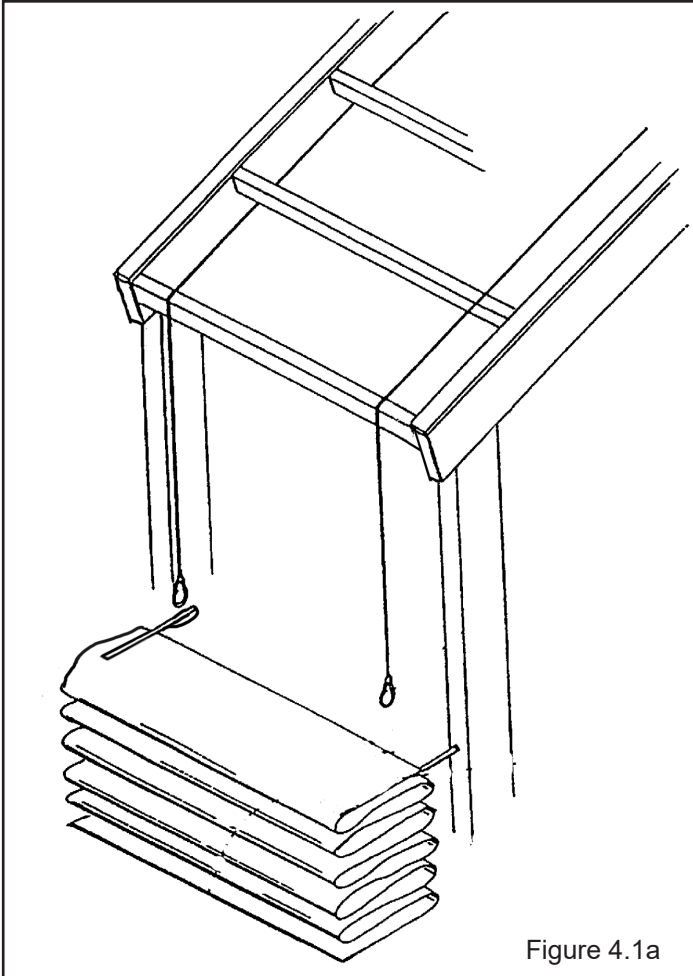

Figure 4.1a
- 4.1.2 Using a drop cloth, lay the mid fabric next to the bottom of the uprights on the snap side of the mid bay. Snap the pull ropes onto the web loops near each kedar edge. Mid should be loosely stacked to permit easy feeding into the channels. See **Figure 4.1a**. **IMPORTANT:** Use the third pull-rope as a pull-back rope. Snap this rope to one of the pull straps on the mid along with one of the pullropes. After the mid has been pulled up and over to the other side of the mid, remove this rope from the strap and snap to the other two pull-ropes. Using this pull-back rope, pull the pull-ropes back to the starting side of the frame and slide them over to the next bay. This step will save time in having to throw the pull-ropes over the frame again. **CAUTION:** Be certain at all times that fabric is not caught on any part of the frame to prevent damage to the fabric.